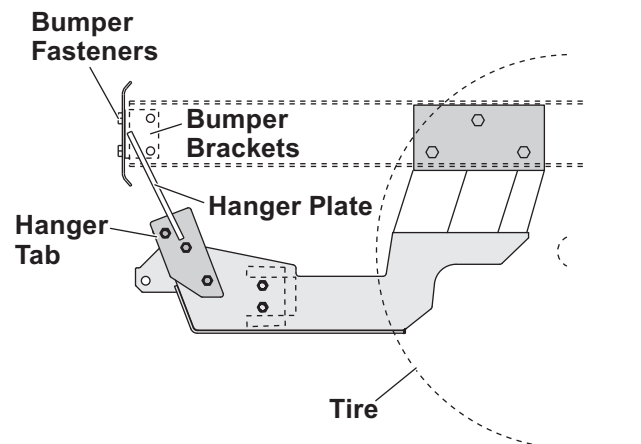

Figure 5
- Cut and bend a hanger plate, as needed, so it will fit between the tow hook plate and the hanger tab attached to the outside of the pushplate (see Figure 5).